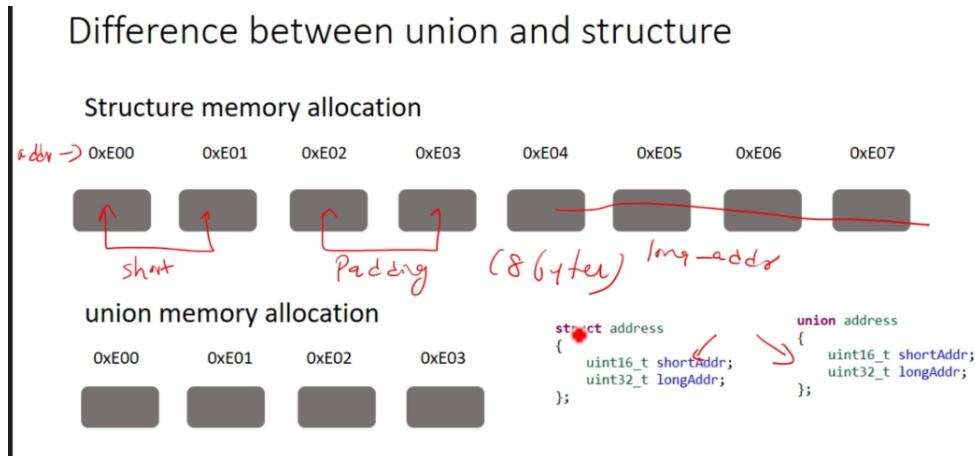

Figure 3.70: Union Example
Unions are variables which share the same memory location. An example is shown in Figure 3.70.
- In the example of Figure 3.70, the size will be 4 byte